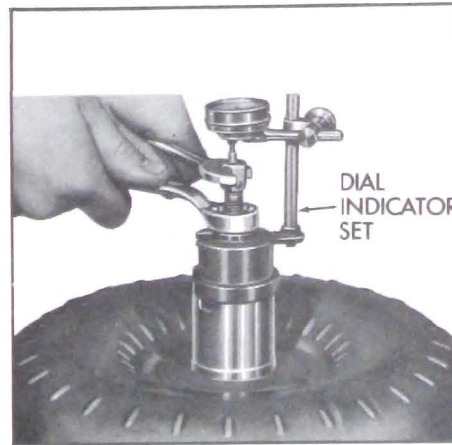

Figure 5-690
d. Loosen hex nut. When nut is fully loosened the reading obtained on the dial indicator will be converter end clearance. If clearance is .050" or over and the oil has the appearance of having been mixed with aluminum paint, replace the converter. See Figure 5-690.